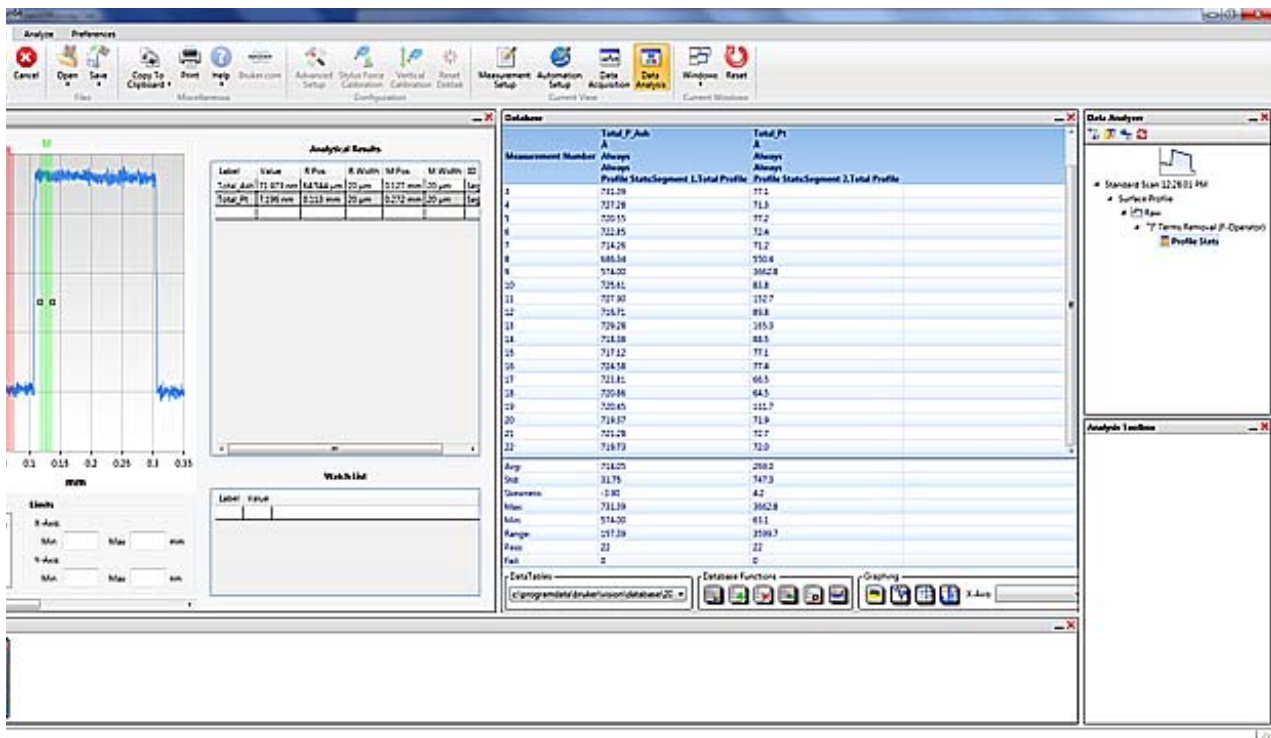

Figure 4-22: Data Analysis Display with an Open Database Window
- Click the **General Preferences** button on the **Preferences**, set **Enable Data Logging** to **True**, and then click **OK**. A database file is now generated for each scan measurement (see Figure 4-22).